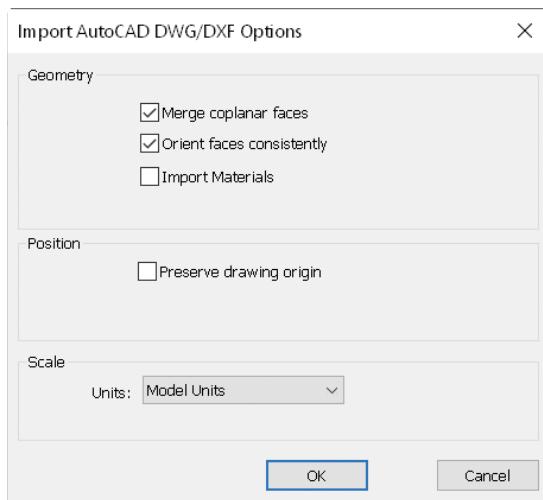

Figure 5-72: Set the options.
2. In the *Options* dialog window, check the first two boxes (Figure 5-72). They tell SketchUp to remove triangulated lines from planes and to orient faces uniformly. Set the *Units* field to the AutoCAD plan’s units. Meaning, if the plan’s units are feet, set it to feet. If the AutoCAD plan’s scale and this field’s scale are different, the plan will not enter SketchUp correctly scaled. If you don’t know the units, choose *Model units*, and SketchUp will turn one CAD unit into 1” in SketchUp. Alternatively, use a large unit type, such as feet or meters, and then resize the plan after import.